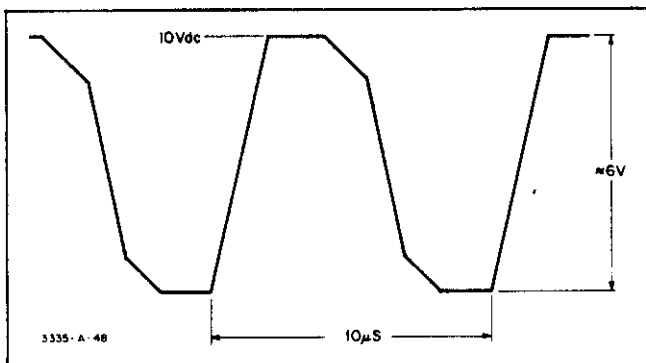

Figure 5-2. A5L7 Adjustment Waveform.
b. Set the 3335A frequency to 1 MHz and adjust A5L7 of the VCO tank circuit for the waveform of Figure 5-2.